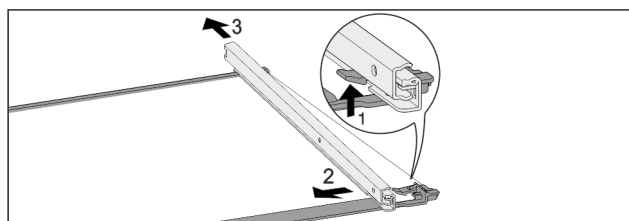

Fig. 122 Glass shelf with rails
- Push up front click-in hooks. Fig. 122 (1)
- Move the pull-out rails to the side Fig. 122 (2) and to the rear Fig. 122 (3).